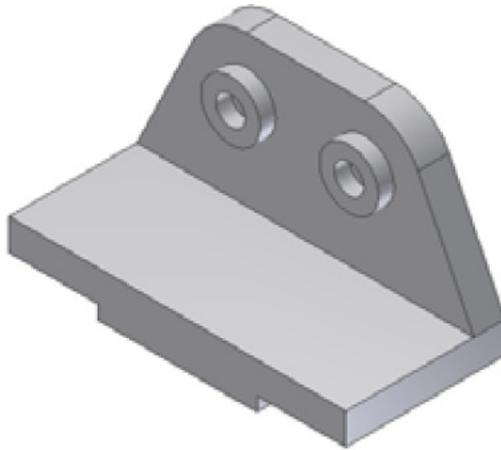

Figure 6-110 Model after creating cylindrical features
- Create two cylindrical features with holes on the front face of the second feature, refer to Figure 6-110.
While selecting profiles for extrusion, in both sketches make sure that you click between the inner and outer circles. As a result, the inner circles are subtracted from the outer circles when you extrude the sketch, thus creating holes. The model after creating the cylindrical features is shown in Figure 6-110.